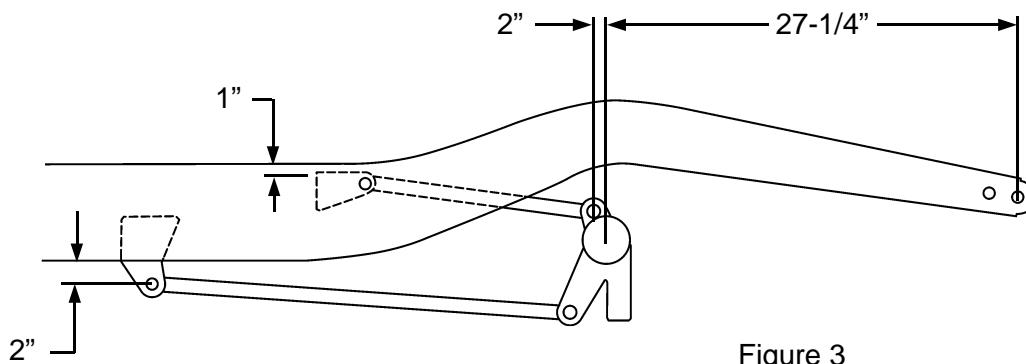
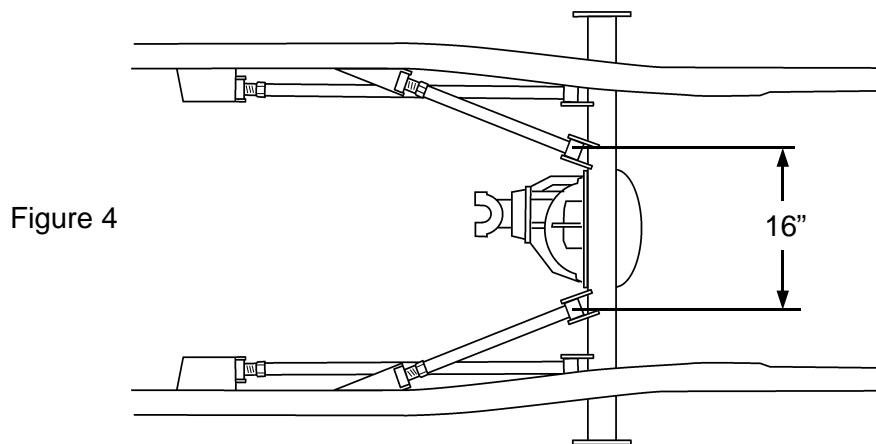

Figure 3
Figure 4
2. Position the axle housing in the frame at 27-1/4" forward measured from the rear frame hole as shown in Figure 3. Position the housing to set the pinion angle to match the angle of the engine which should place the rear coil-over mounts vertical. Assemble and install the Lower Link Bars, with the adjusters to the front, into the Axle Brackets on the housing using the 5/8-18 bolts and lock nuts supplied. Install the Front Lower Brackets and position against the inside of the boxed frame with the bolt center 2" below the frame. See Figure 3. Tack weld in place.
3. Assemble the Upper Link Bars with the adjusters to the front onto the Front Brackets and Axle Tabs. Position the Tabs on the axle housing with the bushing centers approximately 2" forward of the axle center as shown in Figure 3 and 16" apart as shown in Figure 4. The Front Brackets should be 1" below the top of the frame as shown in Figure 3. Tack weld in place. Check for floor pan clearance before final welding. If all is correct, remove the Link Bars and finish weld all brackets. Final welding should be performed by a qualified welder.